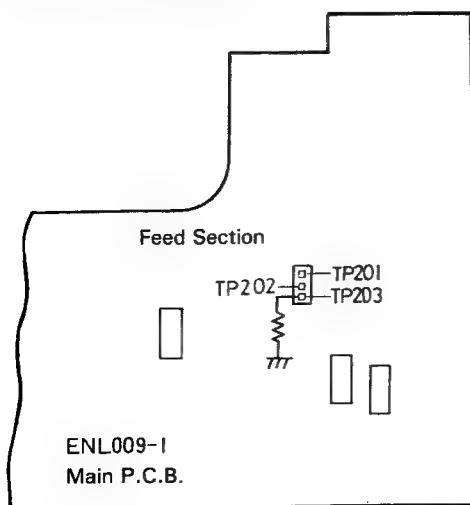

Fig. 21
1. Connect TP203 to ground via a  $2.2k\Omega$  resistor, as shown in Fig. 21.